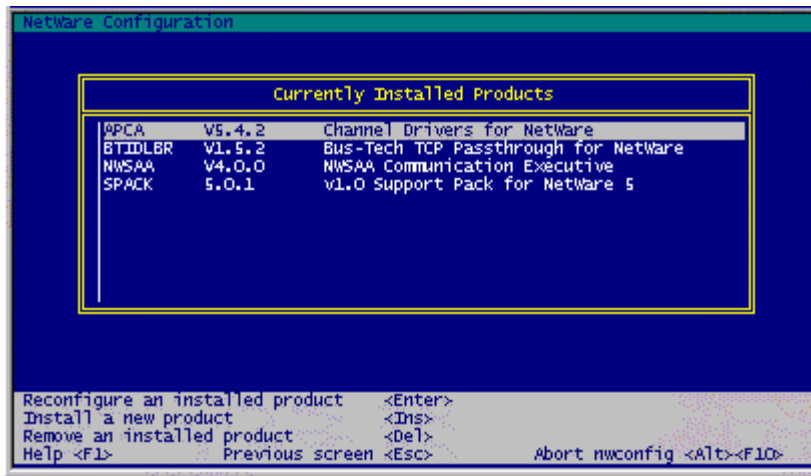

Figure 3-28. Currently Installed Products
- The Channel Drivers for NetWare will be listed in the **Currently Installed Product** list (Figure 3-28).
9. The Channel Drivers for NetWare will be listed in the **Currently Installed Product** list (Figure 3-28).